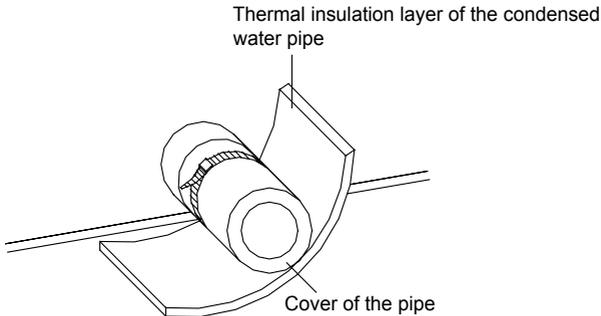

Fig.11 Thermal insulation of the condensed water pipe
- (1) The condensed water pipes should be kept at 5—10 degrees of gradient to facilitate discharge of condensed water. Thermal insulation materials should be placed at the joints of the condensed water pipes so as to prevent from dew condensation. (As shown in Fig.11)
- (2) There is an outlet for condensed water on both the left and right sides of the indoor unit. When the outlet of the condensed water is determined, the outlet on the opposite side should be blocked with a stopper and wrapped with strings so as to prevent the water from leaking. Thermal materials will be used to wrap the sealing properly.